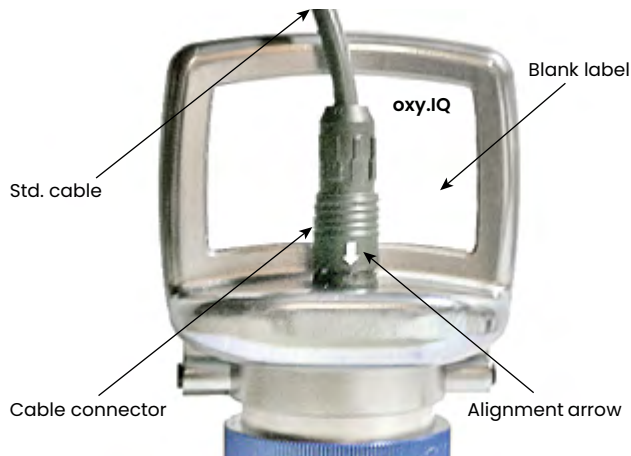

Figure 5: oxy.IQ cable and connector
1. Attach the appropriate cable to the oxy.IQ (see figure 5 below). Be sure to align the white arrow on the cable connector with the white arrow on the oxy.IQ connector, and then push the top of the cable connector straight down onto the mating connector on the rear of the electronics module until you hear it click into place.